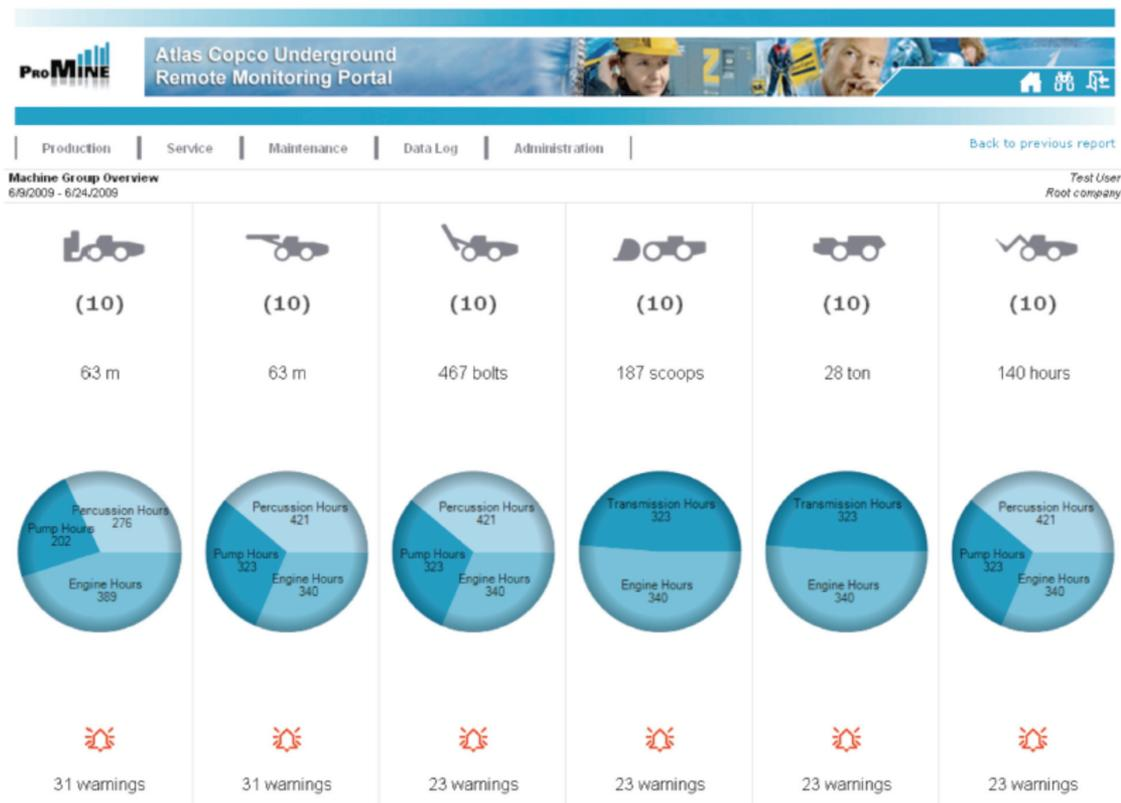

Figure 2. Machine data (used at both local back office and central back office)
- Collects data from all equipment fitted with a DCCM (refer to Figure 2 for an example of the information gathered)